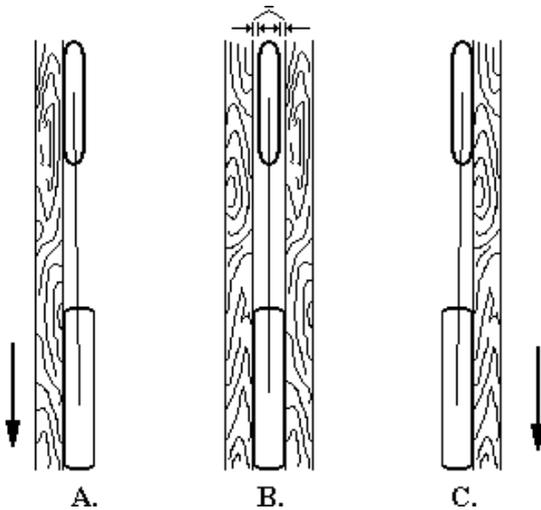

FIG. F10. *Checking alignment*
If the front tyre is of smaller section then it should be as drawing (B) Fig. F10.